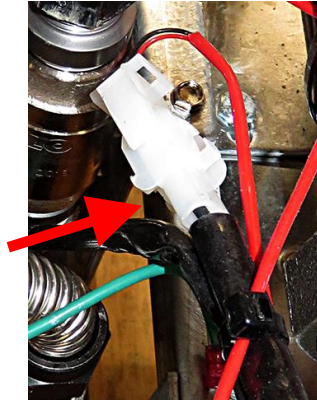

Figure 39
36. Attach the other end of the harness in step 35 with the white 2-pin Molex connector to the bulk fresh solenoid connector (see Figure 39).